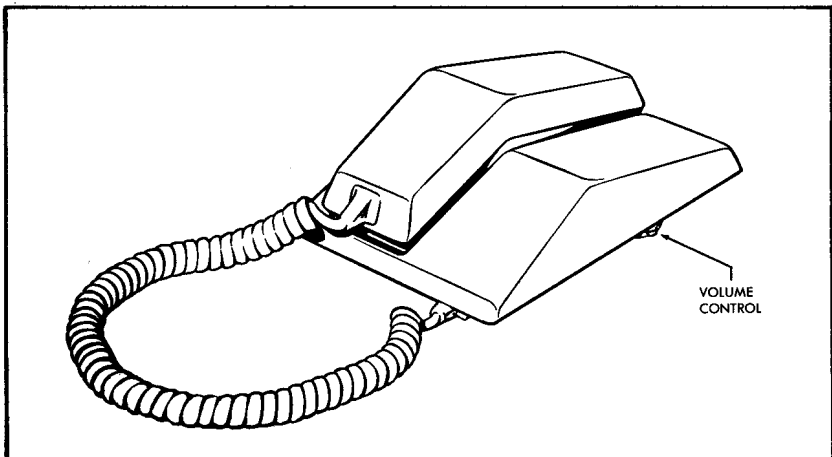

FIGURE 9: Location of Ringer Volume Control Wheel
3.07 To adjust the ringer volume, a wheel that protrudes through the baseplate at the side of the set has been provided. (See Figure 9.) Moving a screw will allow this wheel to completely silence the